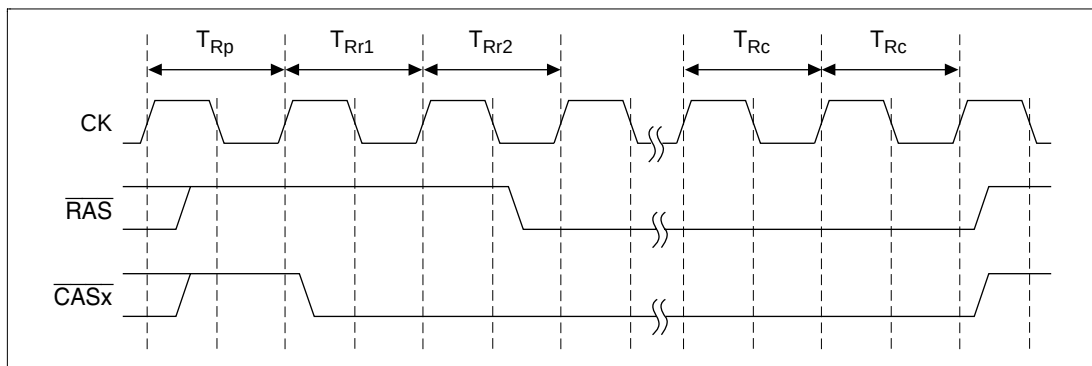

**Figure 10.16 Self-Refresh Timing**
**Self-Refresh:** When both the RMD and RFSH bits of the RTCSR are set to 1, the  $\overline{\text{CAS}}$  signal and  $\overline{\text{RAS}}$  signal are output and the DRAM enters self-refresh mode, as shown in figure 10.16. Do not access DRAM during self-refreshes, in order to preserve DRAM data. When performing DRAM accesses, first cancel the self-refresh, then access only after doing individual refreshes for all row addresses within the time prescribed for the particular DRAM.